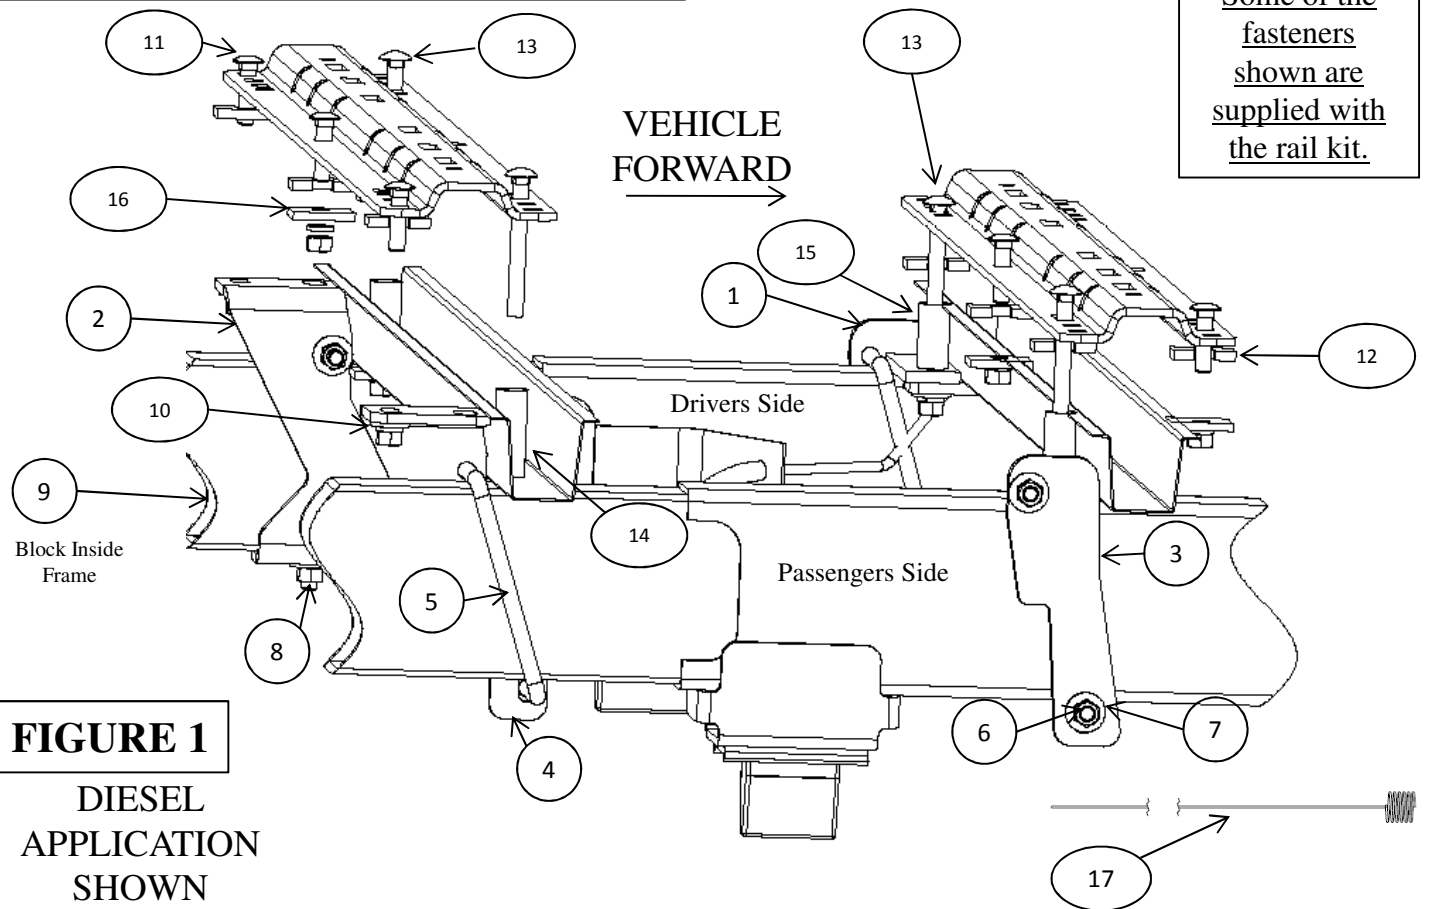

FIGURE 1
5. Temporarily position the frame brackets (2) and (4) on the inside of the frame as shown in Figure 1 and 2 and check that the 1/8in. drilled holes align with the slots of the frame bracket. Remove the frame bracket from the vehicle if the holes align. If not, adjust the 1/8 in. holes so that they do align.
- a) Place the rear brackets (2) (4) on the inside of the frame as shown in Figures 1 and 2.
- b) Install a u-bolt (5) on each of the brackets. The u-bolt wraps around the outside of the frame, right behind the rear bed support. Loosely install 1/2 in. conical washers (7) and hex nuts (6) onto the ends of the u-bolts.
- c) For the drivers side rear only, feed a 1-3/4 in. carriage bolt (8) and 1 in. x 3 in. block (9) into position in the slot on underside of frame using a pull wire. There is a round hole in the inside of the frame that can be used to feed the hardware. Loosely fasten the carriage bolt (8) with 1/2 in. conical washer (7), lock washer (10) and hex nut (6).
8. Place the two 2.75" long tube spacers (14) in the forward holes and reposition the mounting rail over the holes.
9. Install the 1/2 in. x 2 in. long carriage bolts (11) through rear rail, u-shaped spacers (12) (above or below bed depending on corrugation), and rear holes of the rear brackets (2) (4). **NOTE: The u-spacers may need to be installed beneath the bed and above the frame bracket if you are drilling into the raised area of the bed corrugation.** Install lock washers (10) and nuts (6) on the bolts (11). Snug nuts up by hand.
10. Install the 1/2 in. x 4-1/2 in. long carriage bolts (13) down through front holes in rear rail, spacer tube, and in the holes of the bed support. Install the 1-1/2 in. x 2 in. block (16) with lock washers (10) and nuts (6) on the bolts (13). Snug nuts up by hand.
11. Install the 1/2 in. x 2 in. long carriage bolt (11) in the center hole of the rear rail as show in Figure 1. Place a u-shaped spacer (12) (above or below the bed depending on corrugation), and attach the bolt with a 1-1/2 in. x 2 in. block (16), 1/2 in. lock washer (10), and hex nut (6) on the bottom.
13. Repeat Steps 4 and 5 using the front frame brackets (1) (3). The bracket should be just rearward of the next bed support. Open all five holes to 9/16”.